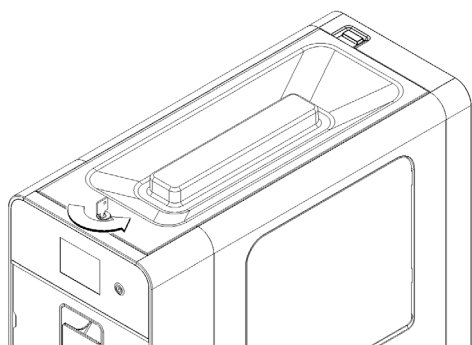

figure 15
- If the cover is fitted with a safety lock, turn the key anti-clockwise. (see figure 15)
clockwise and remove it. (see figure 15)